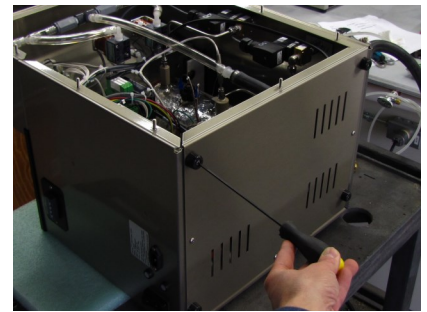

Figure 2
2. Remove the bottom panel from the instrument to access the internal components. There are six screws to be removed using an 1/8" hex wrench. See Figure 2.